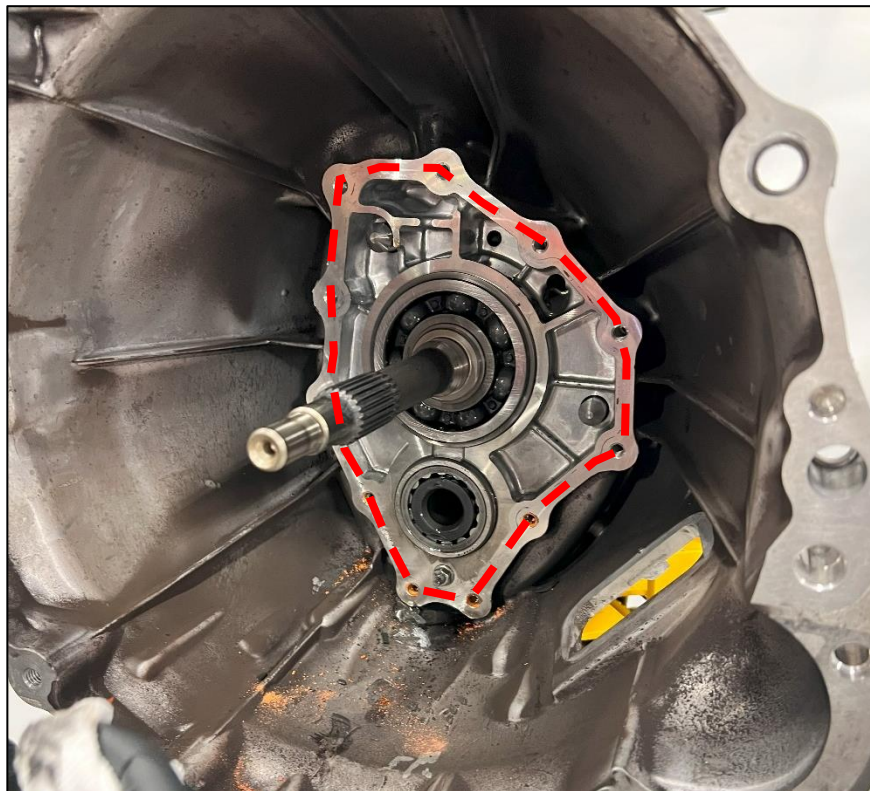

Figure 7
28. Clean the mating surface for the new Z1 Transmission Front Cover Gasket. *Figure 7.*